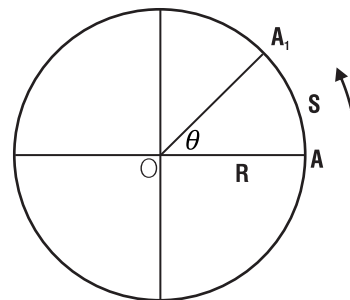

Figure 2.1
An angle is measured in degrees or radians, for example angle θ in **Figure 2.1** is subtended by arc AA_1 .
From **Figure 2.1** it follows that:
Angular displacement is the angle formed, in radians, during motion. It is 2π radians when radius (OA) of **Figure 2.1** makes 1 revolution. It could be any value eg $3(2\pi)$ or $3(2\pi)+1,6$ etc.